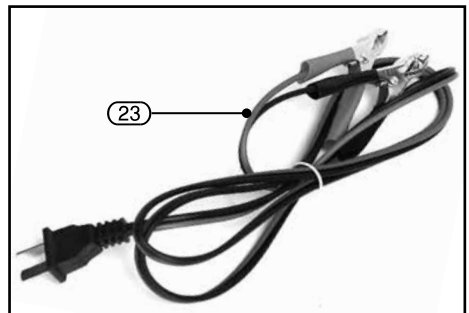

FIG.12
9.8 DC POWER (TOPPING UP CAR BATTERIES) – FIGS. 12 – 13